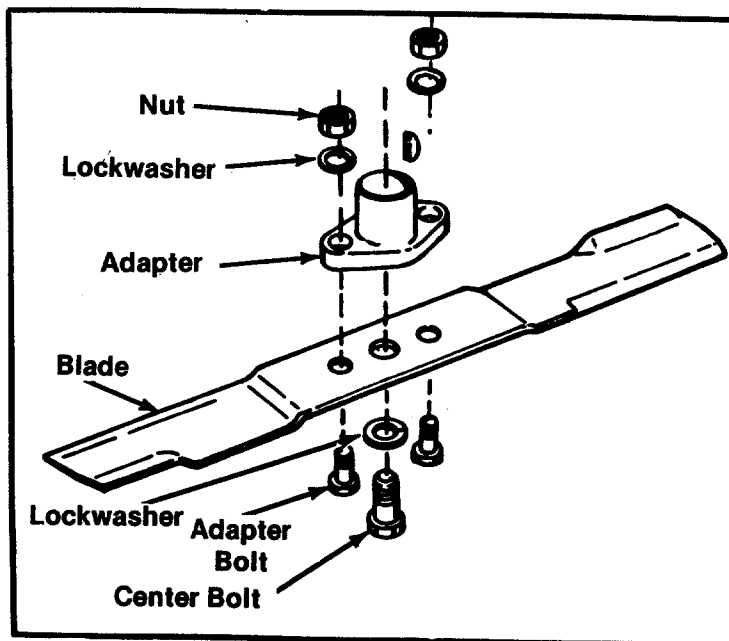

FIGURE 22. BLADE REMOVAL
- Step 2. Remove the blade by removing the hex head cap screw in the center of the blade. Hold the blade with one hand and using a 1/2" open end, box or adjustable wrench, remove the bolt. See figure 22.
Step 2. Remove the blade by removing the hex head cap screw in the center of the blade. Hold the blade with one hand and using a 1/2" open end, box or adjustable wrench, remove the nut. See figure 22.